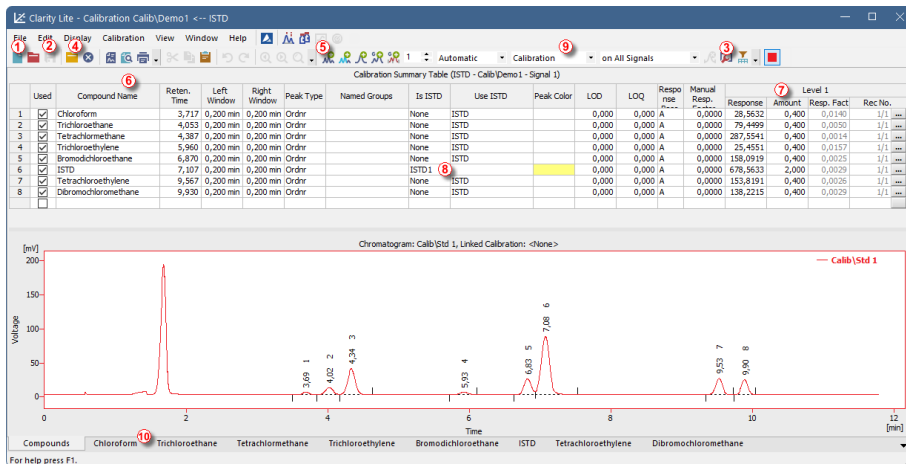

Fig. 12: The Calibration window - loaded standard
- Use the **Open Standard** icon (yellow) (4) to open the **STD 1.PRM** data file. The lower part of the **Calibration** window now displays the chromatogram of the standard.
- Use the **Add All** icon (blue) (5) to add all identified peaks to the Calibration Summary Table. The Table appears in the **Calibration** window, ready to be completed as shown on **Fig. 12** on pg. 17.
- As demonstrated in the Calibration Summary Table and the Chromatogram, individual peaks are now identified according to their retention times only. To label the peaks, click and edit the fields in the **Compound Name** column (6) to the names shown on **Fig. 12** on pg. 17.